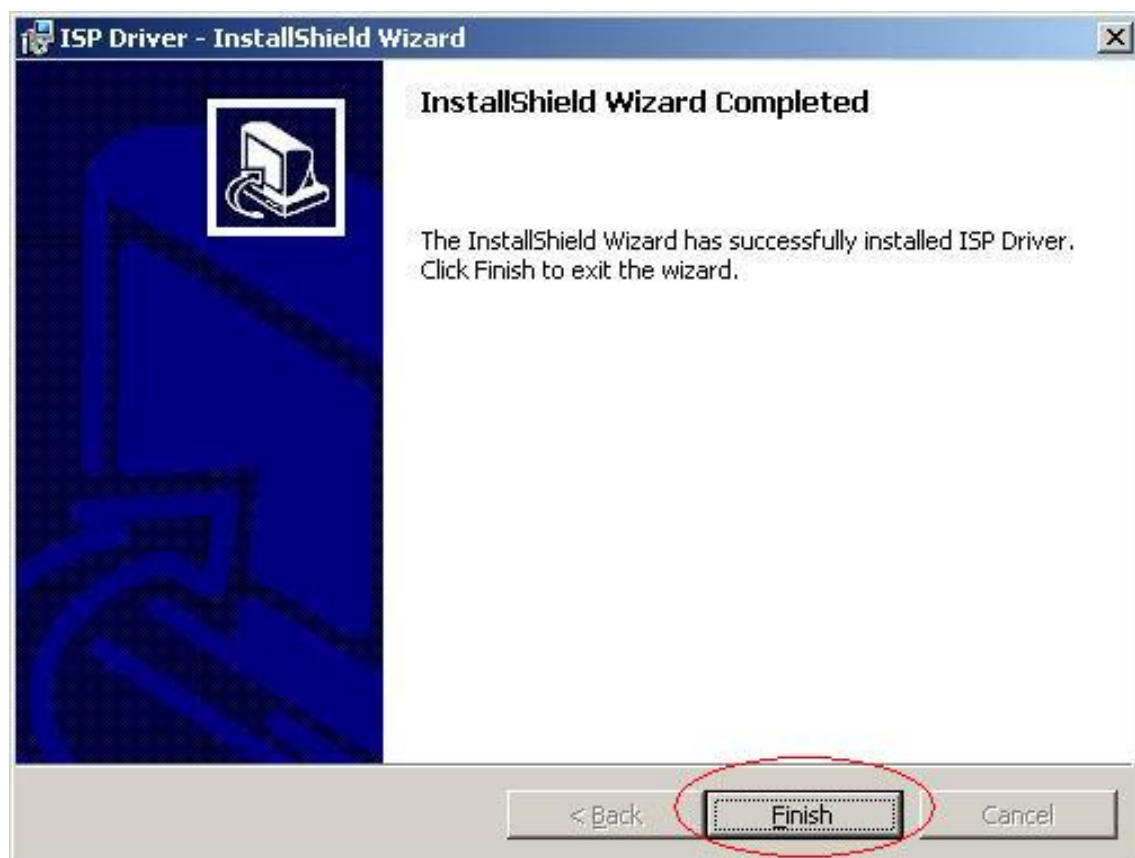

Fig. 1.4
6. Installation has finished , press “ Finish “ button , see Fig 1.4